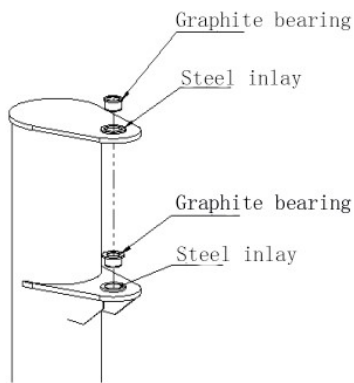

Figure 6-2-1
- a. Insert the upper and lower graphite bearings into the steel inserts of the upper and lower ear plates (Figure 6-2-1).